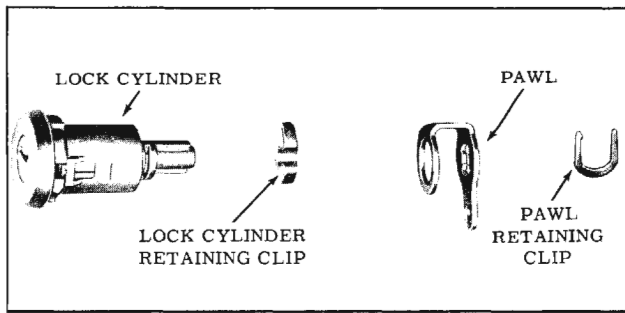

Fig. 16-30 Door Lock Cylinder Assembly
2. Remove pawl retaining clip, pawl and lock cylinder retaining clip. (Fig. 16-30)